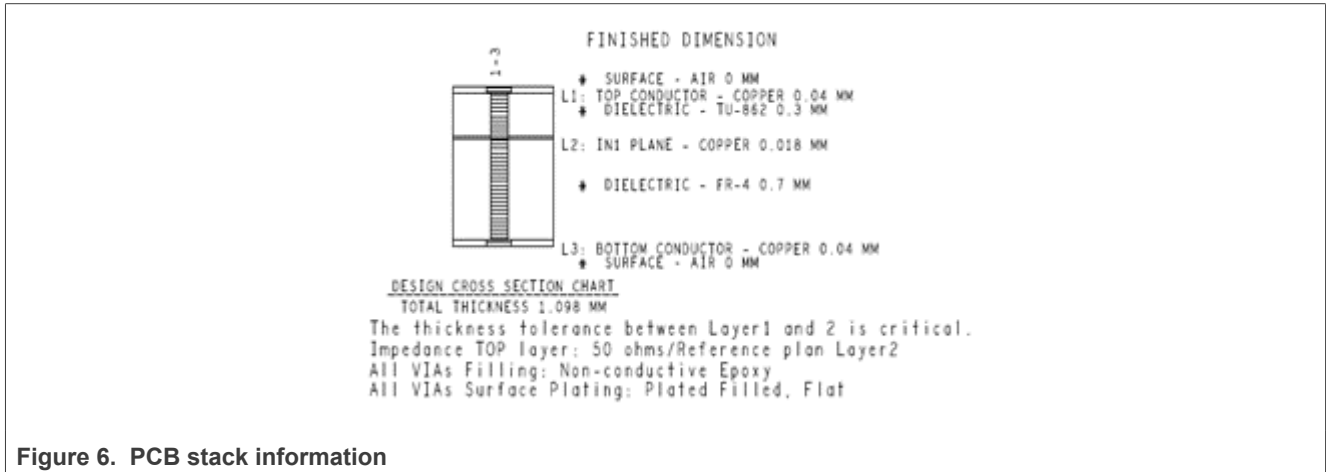
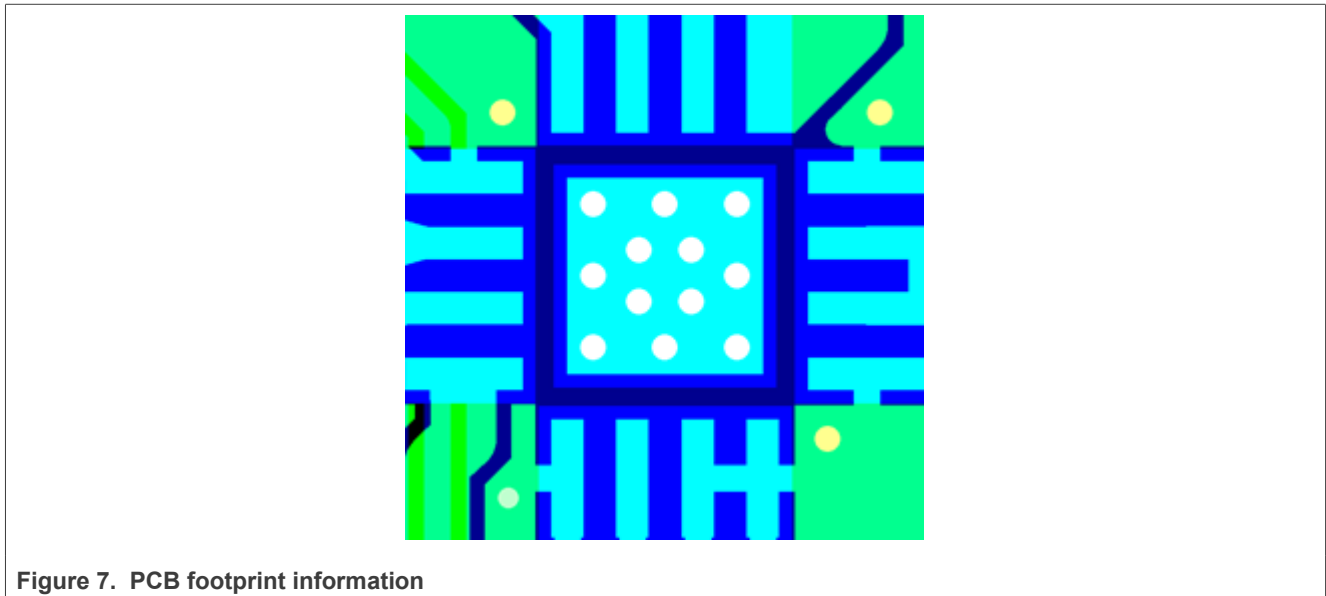

Figure 6. PCB stack information
Figure 7. PCB footprint information
- Proper grounding of the GND pins is also essential for good RF performance. Either connect the GND pins directly to the ground plane or through vias, or do both, which is recommended. The layout and component placement of the BTS6403C evaluation board is given in Figure 6
The PCB material used to implement the pre-driver circuit is a 0.3 mm TU-862 low loss printed circuit board which is merged to a 0.7 mm FR4 layer for mechanical stiffness. See Figure 6 The official drawing of the recommended footprint can be found via following link SOT758-1.pdf. When micro strip coplanar PCB technology is used it is recommended to use at least 12 ground-via holes of 300um in the ground plane under the device, this is also used on the EVBs as shown in Figure 7.